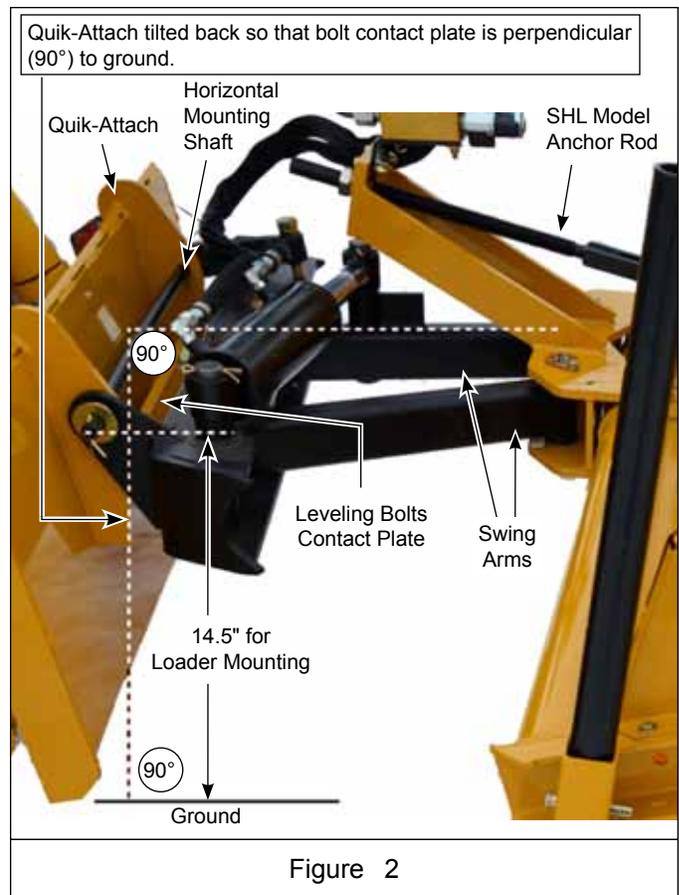

Figure 2
3. If mounting to a skid-steer (SHL), lower the arms all the way down and tilt (rotate) the top of quick-attach all the way back until bolt contact plate is vertical (at 90° to ground). See Figure 2.
4. If mounting to a loader (SHL), tilt the bucket cylinders all the way back until bolt contact plate is vertical. Lower the arms until the horizontal mounting shaft is 14.5" from the ground. If there is a way to set this location on the loader hydraulics, do so at this time. See Figure 2.